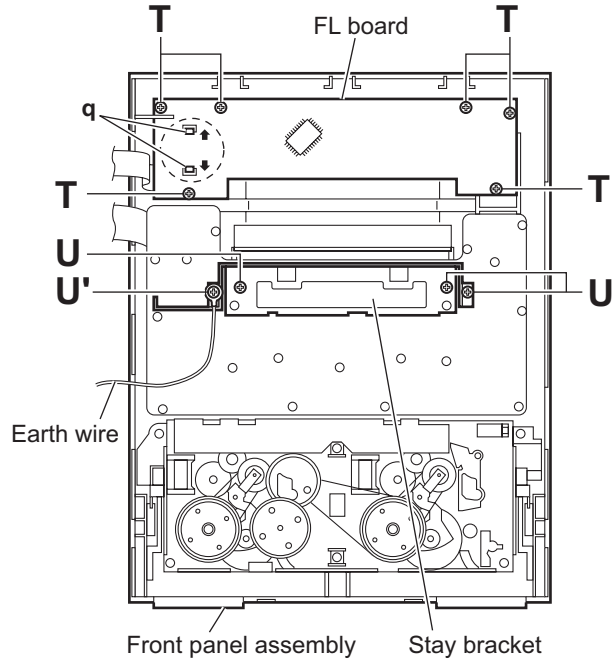

Fig.23
- From the inside of the front panel assembly, remove the six screws **T** attaching the FL board. (See Fig.23.)
- Release the claws **q** in the direction of the arrow and take out the FL board from the front panel assembly. (See Fig.23.)
- From the inside of the front panel assembly, remove the three screws **U** and screw **U'** attaching the stay bracket. (See Fig.23.)
When attaching the screw **U'**, attach the earth wire with it. (See Fig.23.)